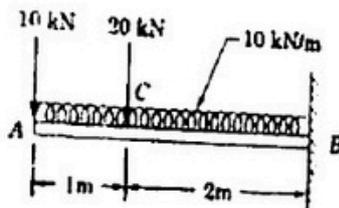

Figure 7
- Q8 (a) Draw the shear force and bending moment diagram for a cantilever beam as shown in figure 7. Also locate the point of contraflexure, if it exists for such a beam. (7)